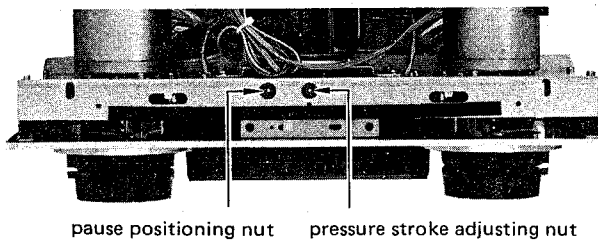

Fig. 2-3 Pause position and pinch roller pressure stroke adjustments
2. Adjust by turning the pressure stroke adj. nut (Fig. 2-3) so that the clearance between the pin and the stopper cushion is about 1.0mm.